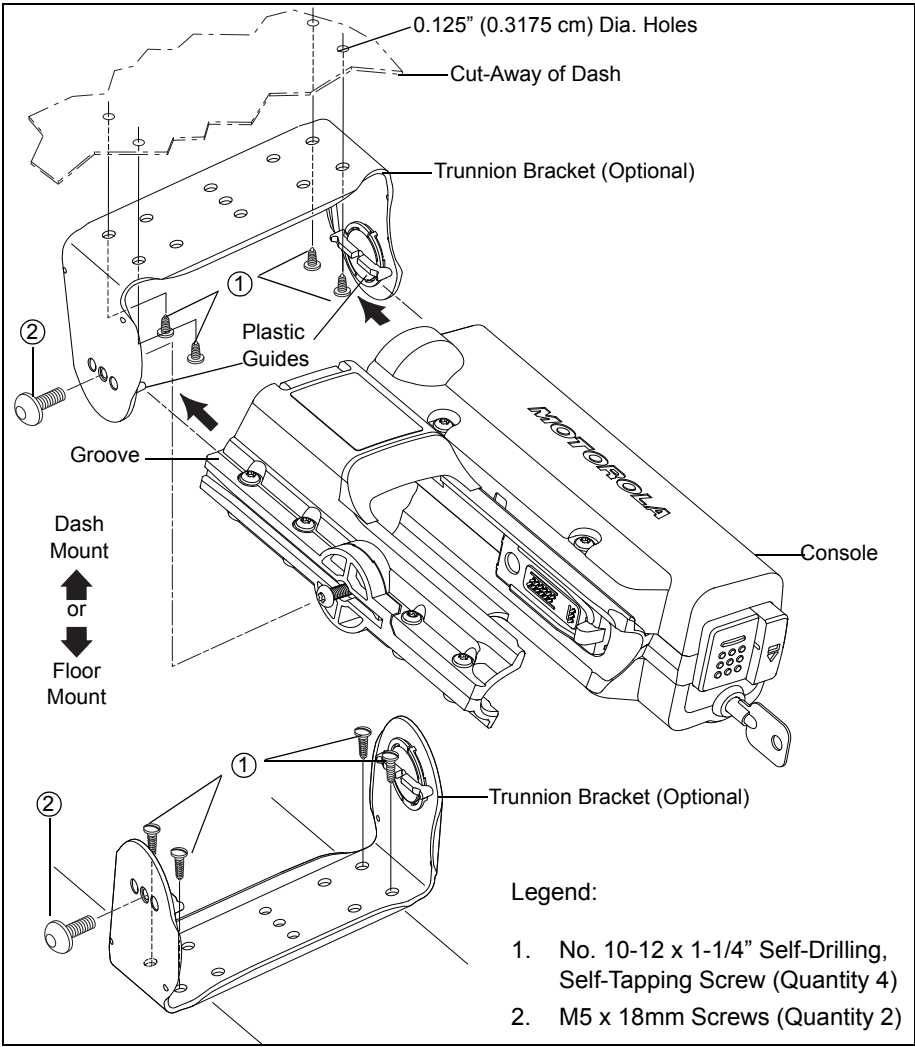

Figure 1: Console Installation Detail
Referring to Figure 1, install the console using the following procedure, or modify the procedure as necessary to conform to the vehicle type. Using the optional trunnion ("U") bracket as a template, drill the mounting holes and mount the bracket with the hardware supplied (see Figure 1).
2. Ensure that the plastic guides of the trunnion are aligned (horizontally) with the corresponding grooves of the console (see Figure 1). Slide the APX VA console into the plastic guides until it reaches the mechanical stop. Verify that the holes in the trunnion bracket are aligned with the holes on the APX VA.